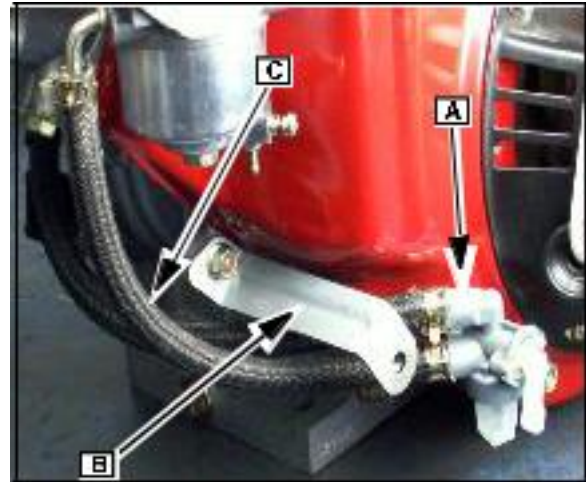

Fig. 18
Connect fuel hose (C) Fig. 18) to carburetor.